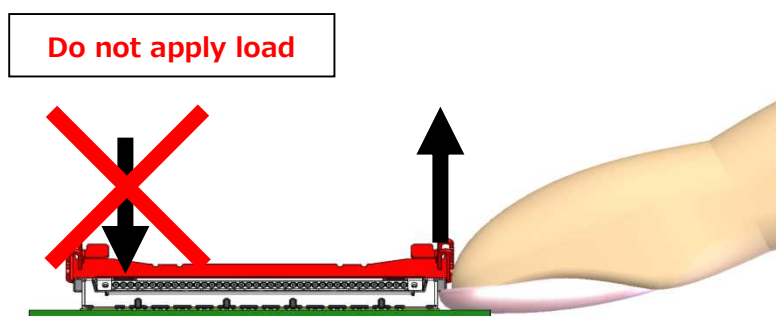

Fig.22
- When withdrawing the connector, we recommend that you pull the finger perpendicular to PCB. When removing one side (cable pitch direction) first, please do not apply load to the top of the connector. (see Fig.22)